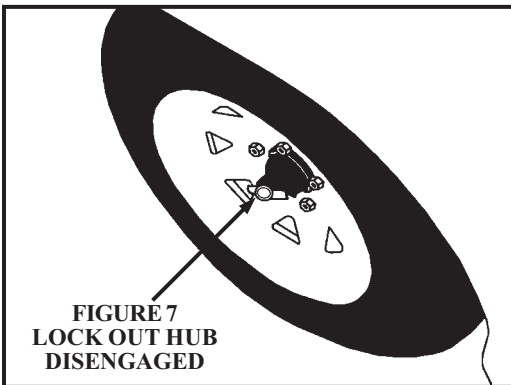

**FIGURE 5**
5. Start sweeper engine. Helper uses tow bar lift valve (See Figure 5) to raise tow bar to towing truck height.